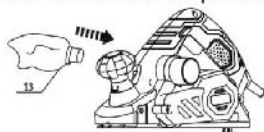

Fig. 3
- Align the connector of the dust bag (13) to the dust extraction outlet on either side of the product and insert it all the way to the stop (Fig. 3).
- Pull the connector out in a twisting motion to remove the dust bag (13).